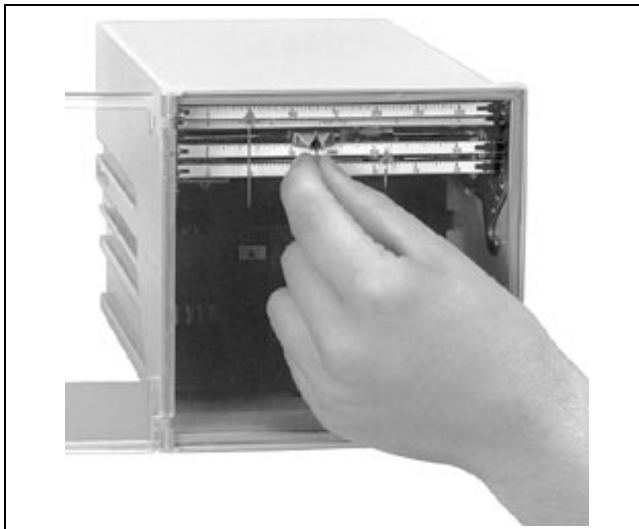

Fig. 8 Fitting the fibre pen
2. Fit fibre pen according to fig. 8.